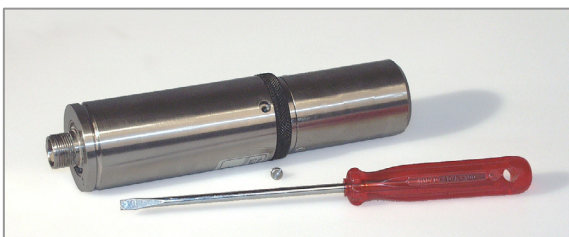

Figure 10
1. Remove the setscrew, refer Figure 10